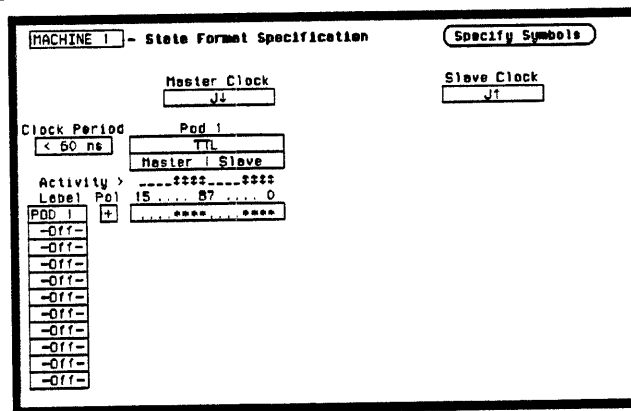

Figure 3-23. State Format Specification for Data Test 5
- Set up the State Format Specification as in figure 3-23, assigning the falling J clock to Master Clock and the rising J clock to Slave Clock. Refer to steps a through d after figure if unfamiliar with the menu.